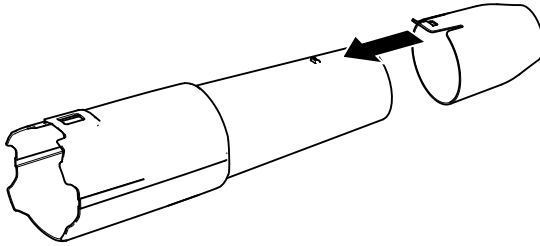

Figure 3
2. Slide the blower tube onto the blower housing. You may need to press down on the tube latch for the blower tube to lock into place (Figure 3).